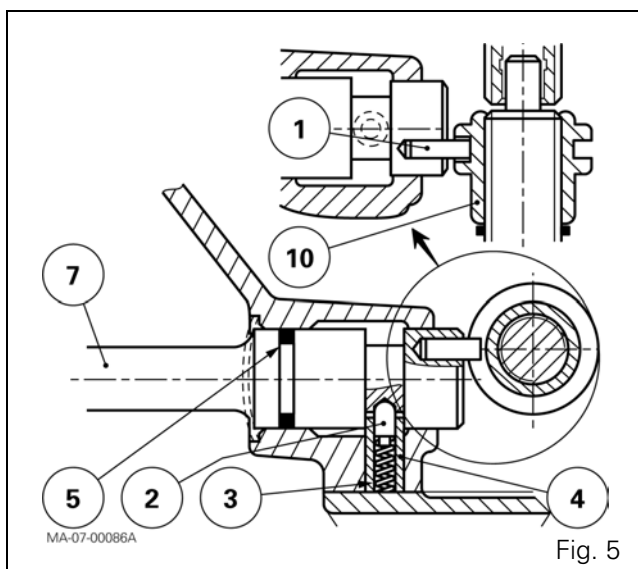

Fig. 5
2. Take out the screws (11).
3. Take off cover (12).
- NOTE:** Recover the spring (3) (Fig. 5).
4. Remove the retainer pipe (4) from the control link (7) and the locking stud (2) (Fig. 5).
- NOTE:** The pad (1) turns free in the link pin (7) (Fig. 5).
6. Remove the O'ring (5) (Fig. 5).